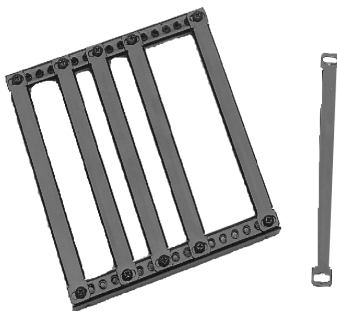

Figure 2: Bracket Shelf
Step 3. Place the bracket shelf inside of the **CNK100** housing. The height of the bracket shelf can be adjusted for different depths. (See figure 2)